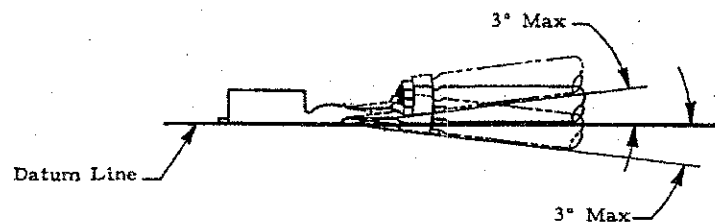

Figure 3
(1) The contact, including the cutoff tab and burr shall not be bent above or below the datum line more than the amount shown in Figure 3.